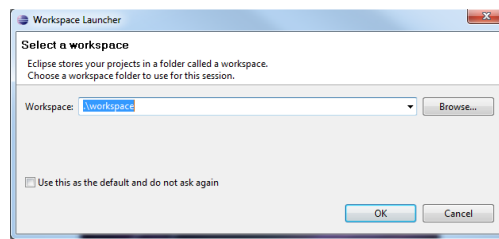

Figure 31. Find “workspace” under the running Eclipse directory
Step 4. I have so many different Eclipse tools I keep forgetting where the workspaces hide so I always start with the workspace under the Eclipse directory using “.\workspace”² (Figure 31 below).